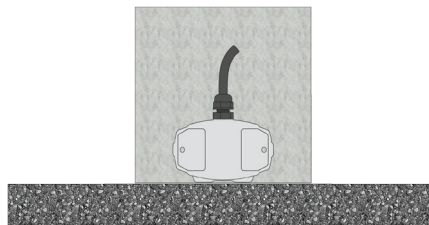

Figure 27. Compact Sensor Module Position of Calibration Step 2
- Locate the sensor module as following Figure 27. The sensor is ready for user to perform calibration step 2.